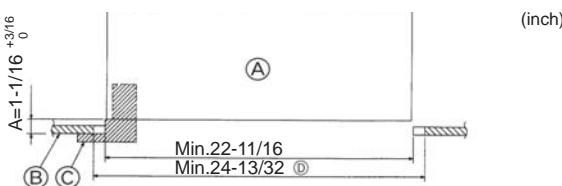

Fig. 7-2
①	Grille	1	650 x 650 , 25-19/32 x 25-19/32
②	Screw with washer	4	M5 x 0.8 x 25, M5 x 1/32 x 31/32
③	Gauge	1
④	Fastener	2
⑤	Band	2
7.2. Preparing to attach the grille (Fig. 7-2)